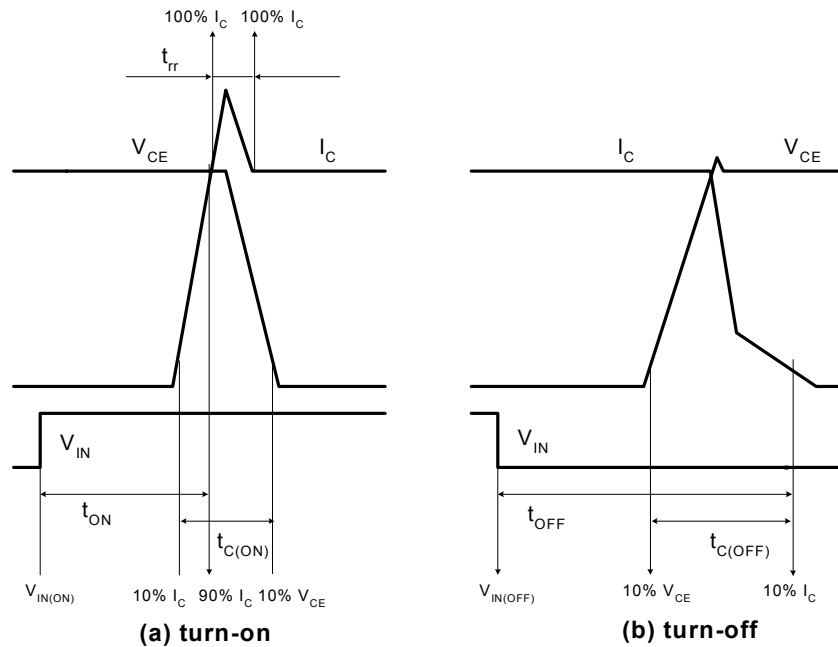

Figure 4. Switching Time Definition
3. t_{ON} and t_{OFF} include the propagation delay time of the internal drive IC. $t_{C(ON)}$ and $t_{C(OFF)}$ are the switching time of IGBT itself under the given gate driving condition internally. For the detailed information, please see Figure 4.